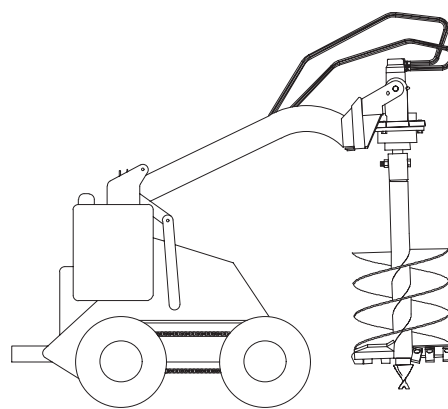

Figure 6
11. Raise the auger free of the ground (Fig. 6).
12. When the auger is vertical, tilt the attachment plate rearward, until the drive head contacts the attachment plate to stabilize the auger and keep it from swinging freely (Fig. 6).